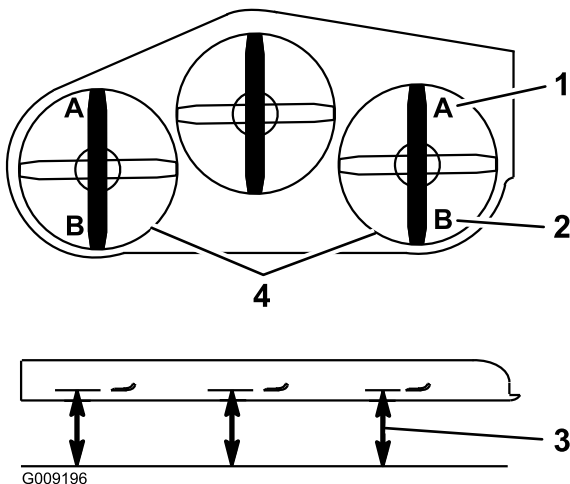

Figure 87
9. On both sides of the deck, measure from the level surface to the front tip of the blade (Position A). The measurement should read 3 inches (7.6 mm) (Figure 87).
15. On both sides of the deck, measure from the level surface to the back tip of the blade (Position B). The measurement should read 3 1/4 inches (8.3 cm) (Figure 87).